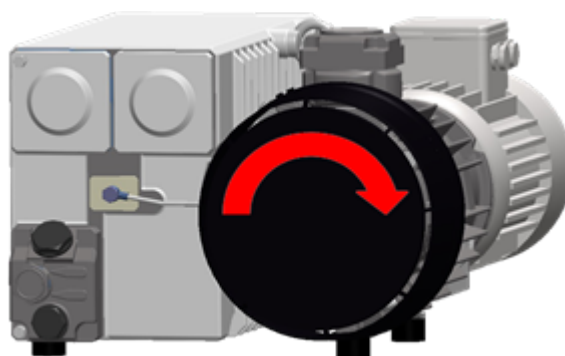

Figure 8: Direction of Rotation of the Vacuum Pump
4. Check the correct direction of rotation of the three-phase model pump. See *Figure 8: Direction of Rotation of the Vacuum Pump* on page 15.